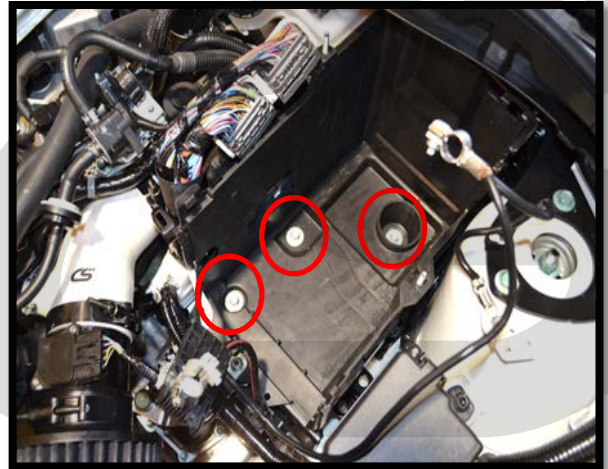

Figure 1e
- i) Remove the battery box. Remove the three 10mm bolts in the bottom of the box, and remove the battery box and ECU. (Red Circles Figure 1e)